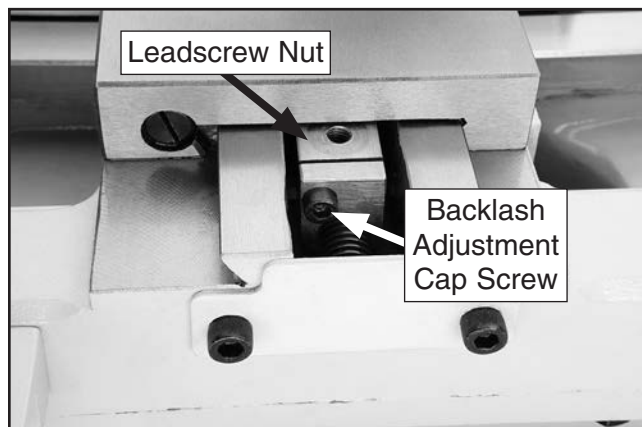

Figure 104. Cross slide leadscrew nut.
3. Rotate cross slide handwheel clockwise to feed leadscrew nut out from under cross slide, as shown in **Figure 104**.
4. Tighten backlash adjustment cap screw shown in **Figure 104** in small increments.